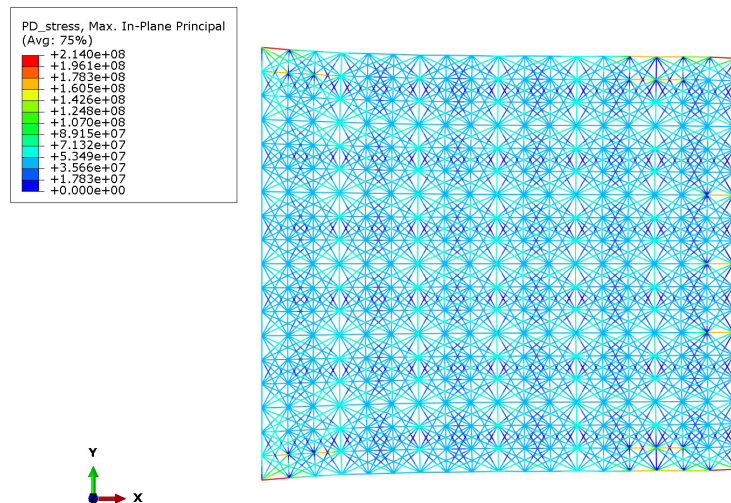

Figure 4: PD stress contour map
- PD Stress Contour Map: Displays the mapped peridynamic stress field computed from the bond stretch values using the strain mapping procedure as illustrated in figure 4.